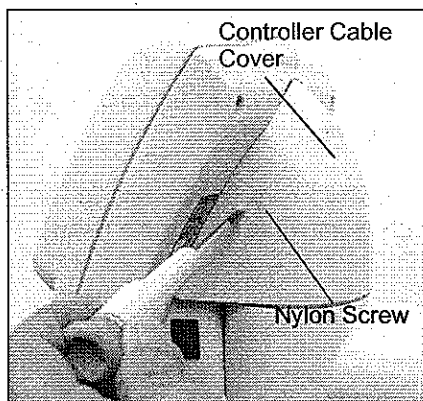

Figure 5-3: Cable Cover
2. Use the flat-edge screwdriver to remove two nylon screws on opposite sides of the Injector Controller Cable Cover (see Figure 5-3).
2. Use a flat-edge screwdriver to secure the cover with two nylon screws (see Figure 5-3). Screws are placed on opposite sides of the cover.